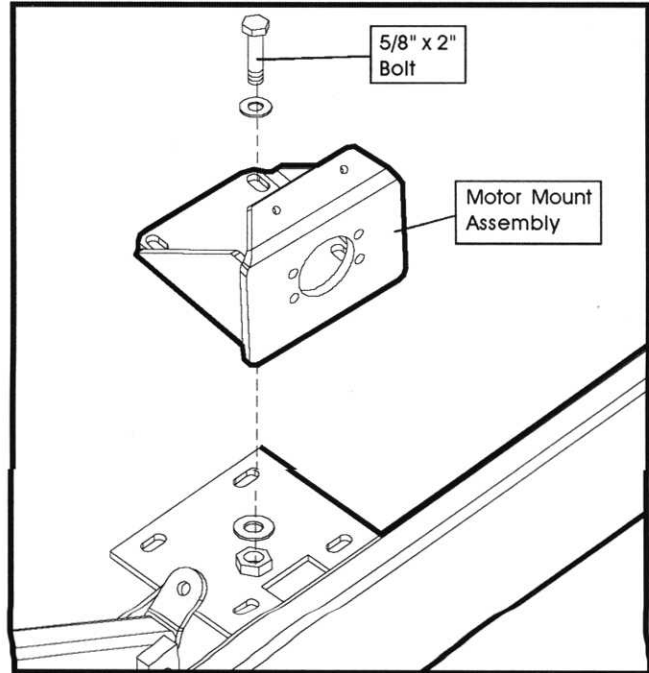

FIGURE 1
4. Refer to Figure 1. Using 5/8" x 2" bolts shown, attach mount assembly to baseplate located between parallel frame members on the left side of the machine.